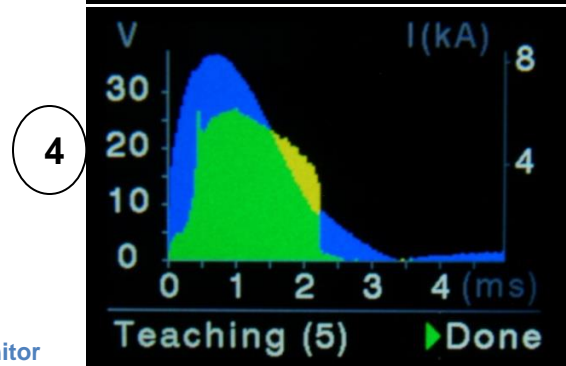

Figure 2.4 Process Monitor
1. Select **Teach** as shown in **Item 1** of **Figure 2.4**.